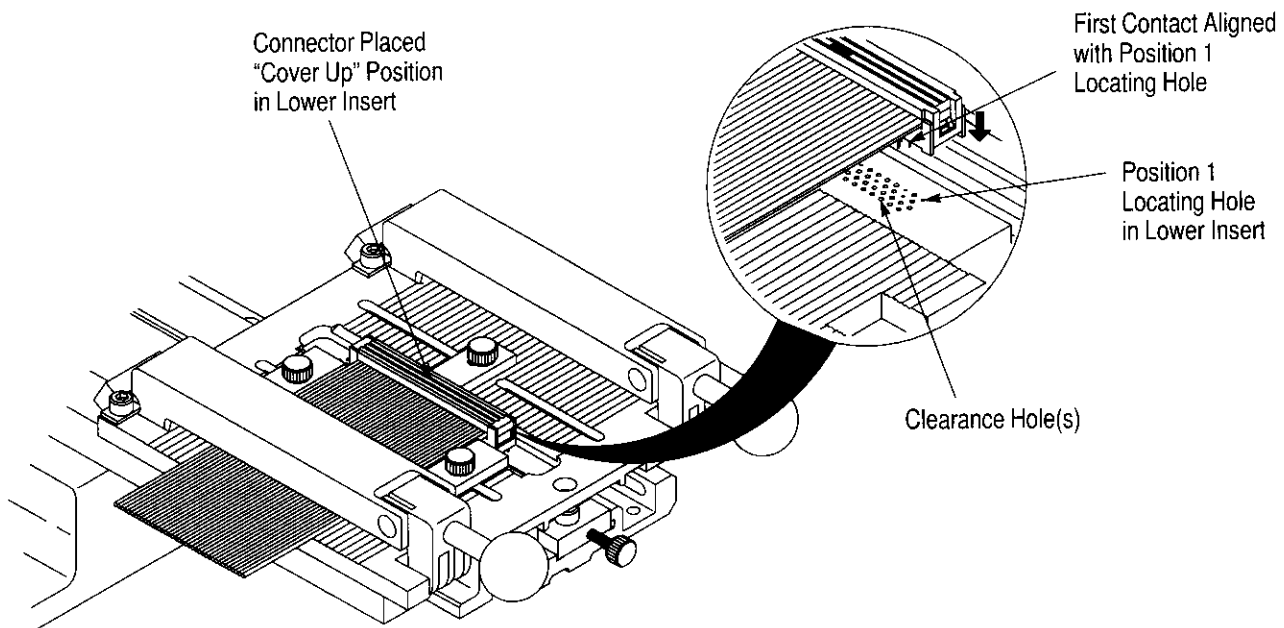

Figure 3
2. Slide cable through the connector; then insert connector (cover up) into the lower insert, making sure that the first contact is aligned with the Position 1 locating hole in the lower insert. See Figure 3.